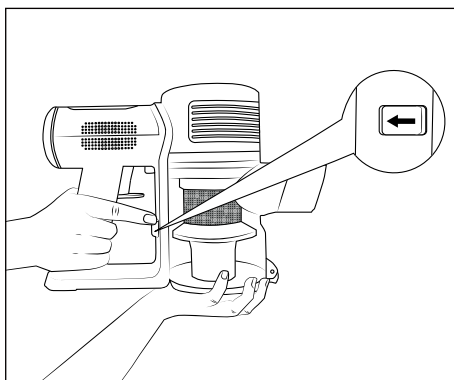

Fig. 17
- 2) To remove the dust container **7** from the appliance, hold the dust container **7** in one hand. Then use a finger of the other hand to press the dust container release button **5** in the direction of the arrow (see Fig. 17). The dust container **7** comes free from the appliance.